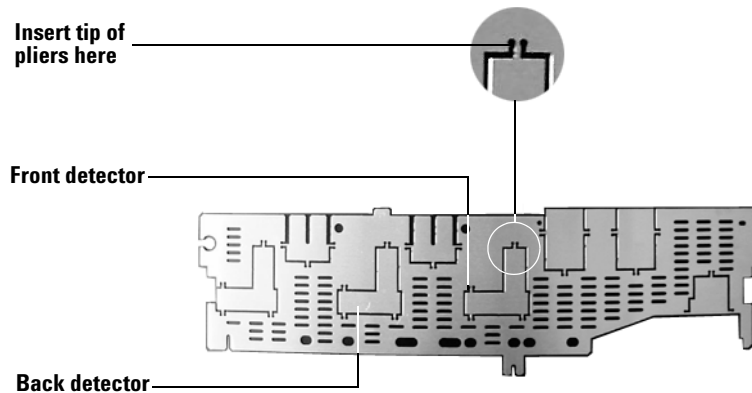

Figure 6 Back-top panel cutouts
- 2 Locate the correct slot for the flow module (Figure 6).
- b** Use a pair of diagonal cutting pliers to remove the appropriate back-top panel cutout. Also remove any cutouts needed to access other flow modules or accessories installed in the GC. See Figure 6.